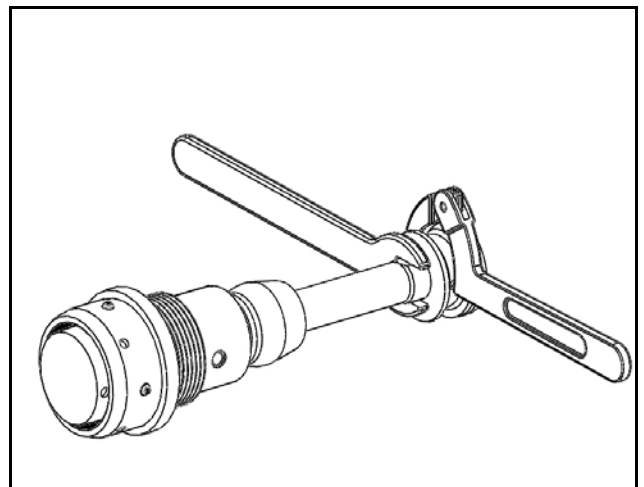

Figure 8 – Piston Head Removal
2. Unscrew the Piston Head from the Impactor with the spanner wrench and a 1-1/4" open ended wrench (see Figure 8).
5. Reinstall the Piston Head onto the Impactor using the spanner wrench and 1- 1/4" open ended wrench (see Figure 8). Make sure they are tight by tapping the spanner wrench with the dead-blow hammer.